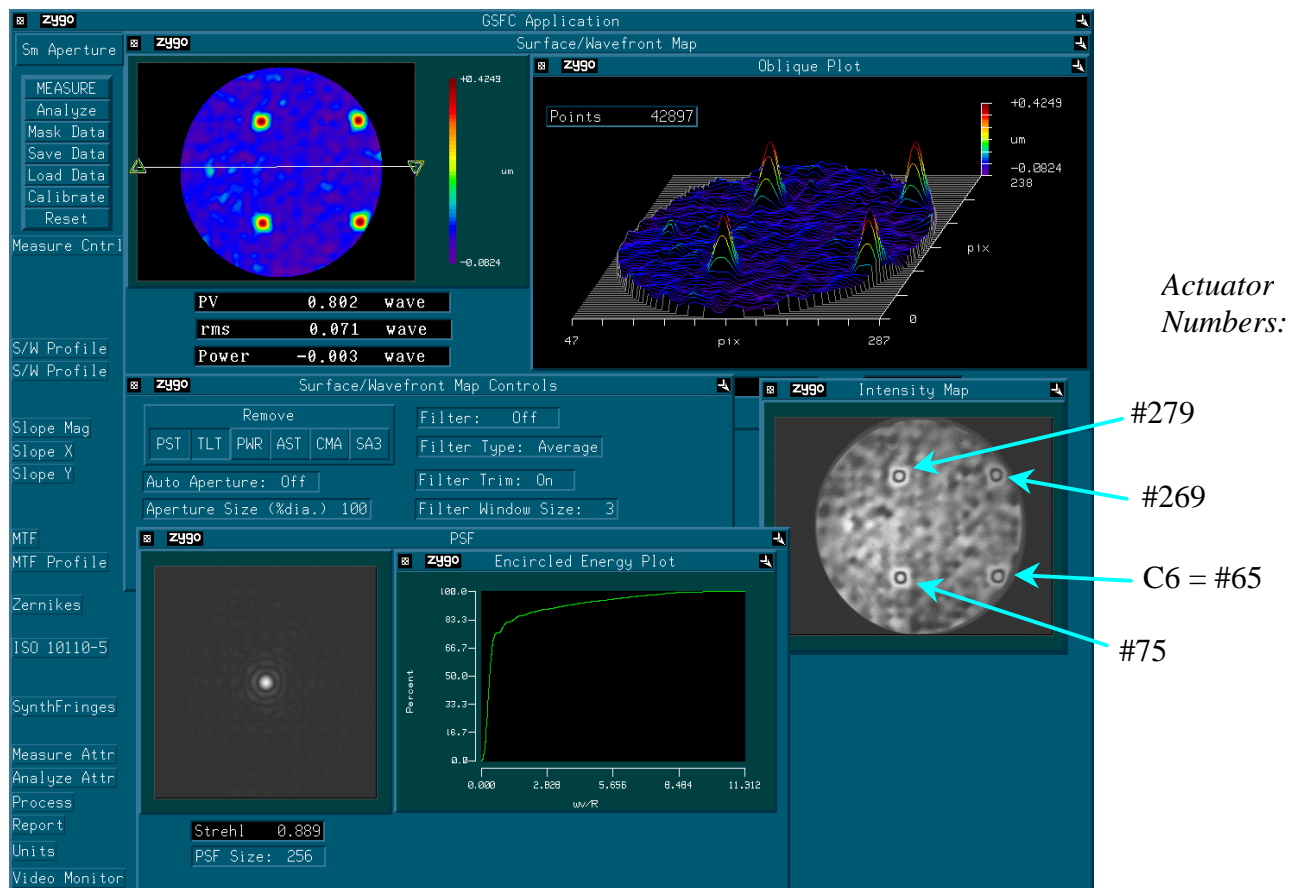

Figure 11. Zygo Screen Shot of “infl_3c.dat”
The influence function data file “infl_3c.dat” consists of an initial arbitrarily chosen actuator (# 3C – see Figure 1) and then 3 additional actuators spaced at 10 actuator increments. These actuators form the square grid pattern shown in Figure 11 and are displaced at a +8000 command value relative to the “flattened” mirror surface given by Equation (3) (see also Figures 7 and 10). For reference, the individual actuators are labeled on the intensity map of Figure 11 using the numbering scheme illustrated in Figure 1.